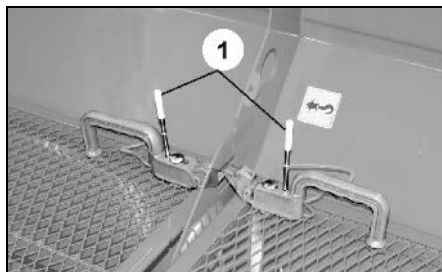

Fig. 6
- (Fig. 6/1) parking position (standard position)